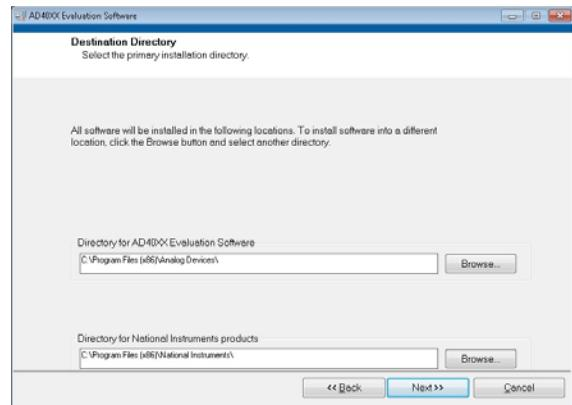

Figure 5. Destination Directory Window
2. Choose the folder location for installation and click **Next**. The default folder is shown in Figure 5.